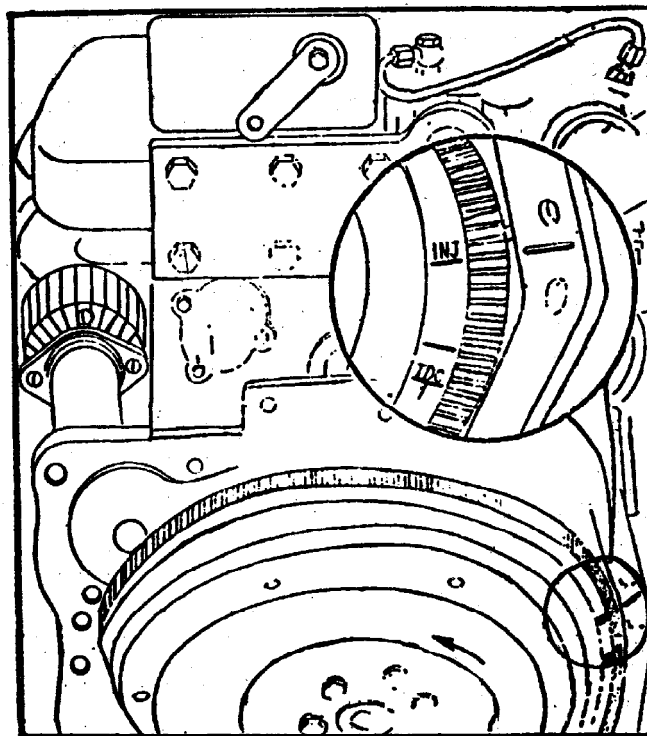

Fig 3-7 The flywheel position at the beginning fuel supply of 1st cylinder
(1) Removing the high pressure pipes of first cylinder of fuel pump, and setting the handle on the maximum supply fuel position, eliminate the air with hand pump, and then turn the crankshaft counterclockwise. Soon after the exhaust tappet of the second cylinder starts to rise, keep on turning the crankshaft slowly till the fuel surface at the delivery port of the delivery valve connector of the plunger pump appears rippling, it means the beginning of fuel supply. This time, the index line "1" on the flywheel should be at the right side of the index line on the connecting plate, the distance between them is $28^\circ \pm 1^\circ$ (about 9.8 teeth on the gear ring) (see Fig 3-7).